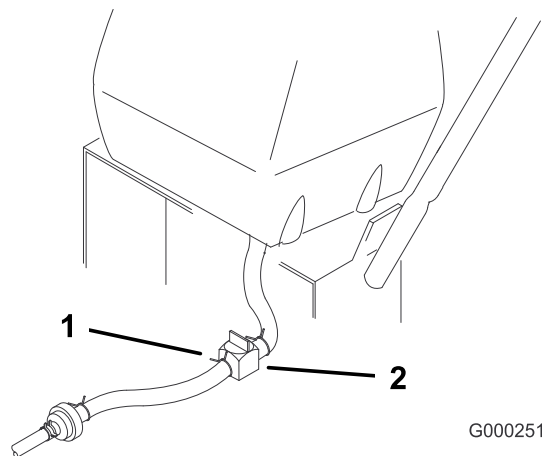

Figure 31
2. Close the fuel shut-off valve at the fuel tank (Figure 31).
3. Squeeze the ends of the hose clamp together and slide it up the fuel line away from fuel filter (Figure 31).
4. Pull the fuel line off the fuel filter (Figure 31). Open the fuel shut-off valve and allow the gasoline to drain into a gas can or drain pan.
3. Close fuel shut-off valve at fuel tank (Figure 31).
7. Open fuel shut-off valve at fuel tank (Figure 31).